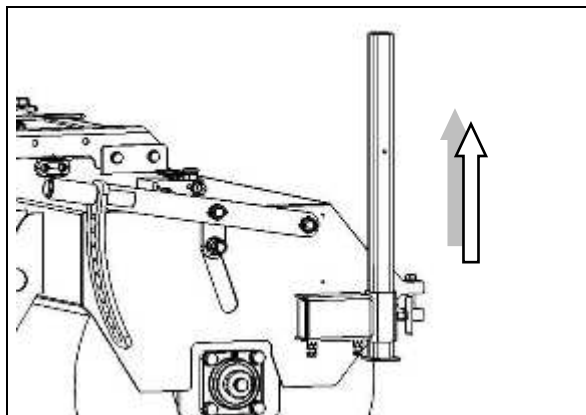

Fig. 4.9
- With free-sweeping PROFI 660 sweeper, place the two supports (Fig 4.9) upwards and secure with tommy screw.